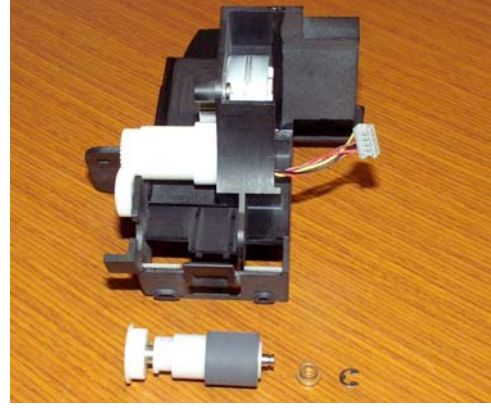

Figure 5-55 Tape Feed Roller Assembly
2. Remove E-Clip and bearing from roller shaft. See Figure 5-55, above right.